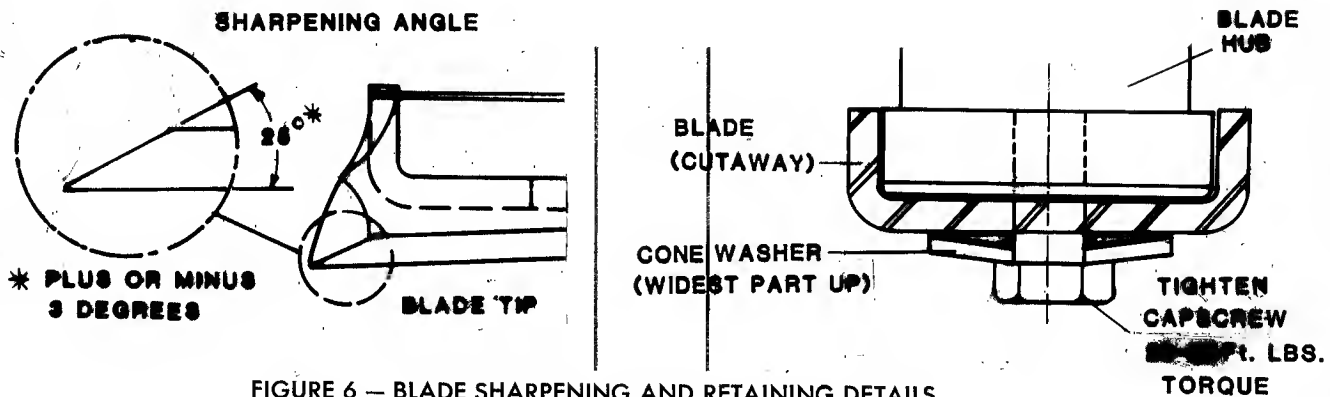

FIGURE 6 — BLADE SHARPENING AND RETAINING DETAILS
**INSTALL** sharpened or replacement blade with components in sequence shown in Figure 6. Make sure that the turned-up rims in the center of the blade fit over the edges of the blade drive hub when installing. Do not substitute any components here. Tighten the blade retaining capscrew to **20-30** foot pounds torque value.